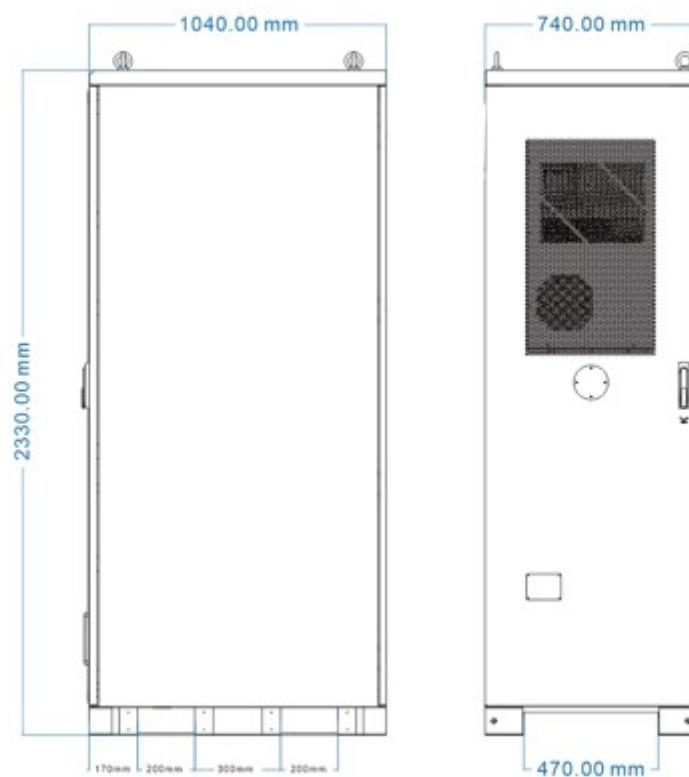

Fig.3-2 Forklift Hole Diagram
2. When using a forklift for lifting operations, the fork should be fully inserted into the entire depth of the energy storage cabinet, with the fork length being no less than 1500mm. As shown in Fig.3-2 below: